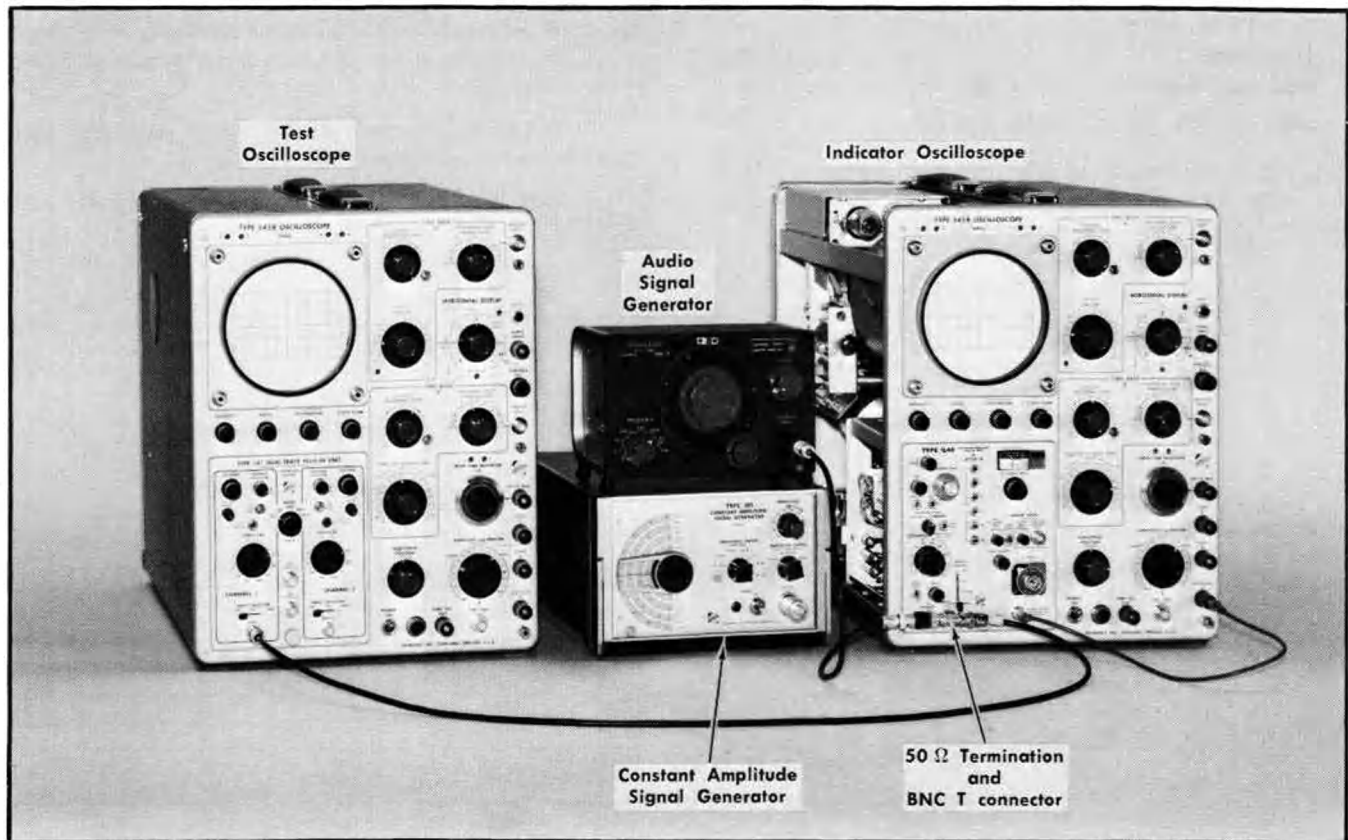

Fig. 5-19. Equipment setup to check video bandpass.
a. Set up the equipment as shown in Fig. 5-19.